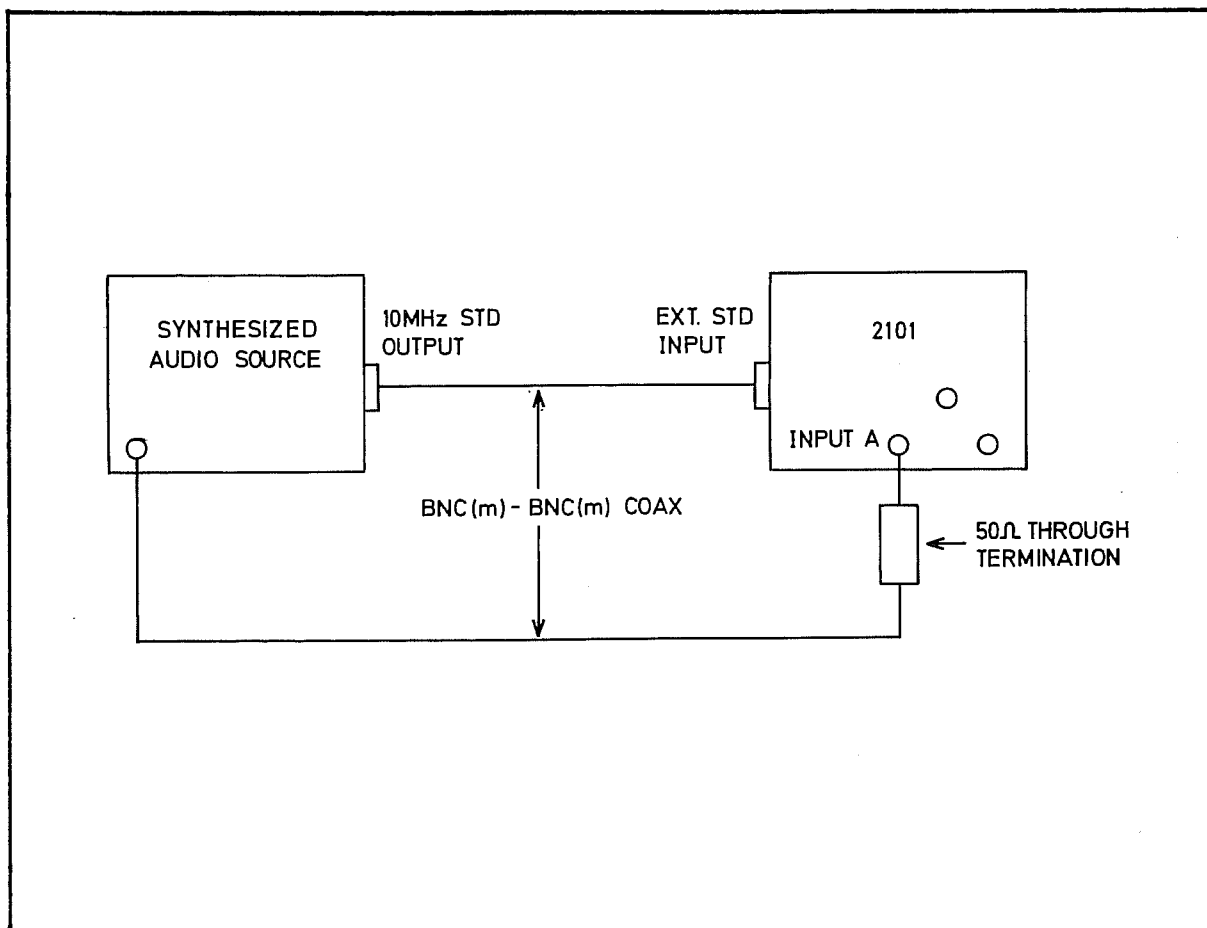

Fig. 7.18 Connection for RF Sensitivity PVP
78 (1) Connect the equipment as shown in Fig. 7.18. Check that the EXT STD indicator is lit.